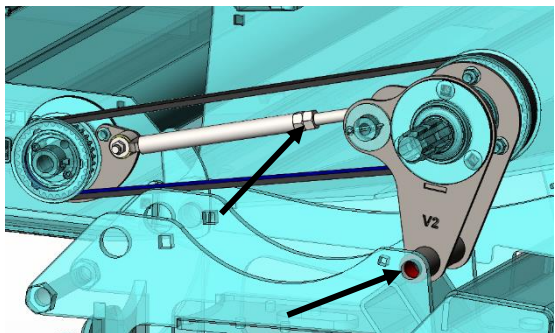

Figure 75
1. Remove the tension rod by loosening the jam nuts and shorten the rod to remove the belt. Figure 75
10. The belt is tensioned with the nuts on the adjustment rod, Figure 75.